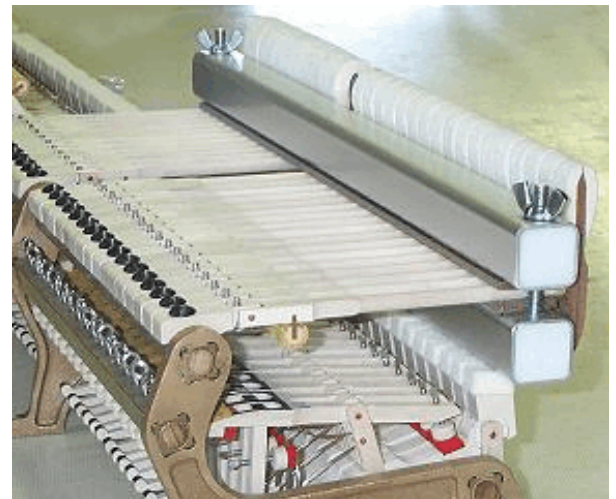

Figure 15: The hammer shank clamp
1. Clamp the shanks together: Our Hammer Shank Clamp (www.spurlocktools.com/id62.htm) is shown in Figure 15. The large aluminum square tubing is crowned to hold shanks securely, preventing damage to the action centers during trimming.